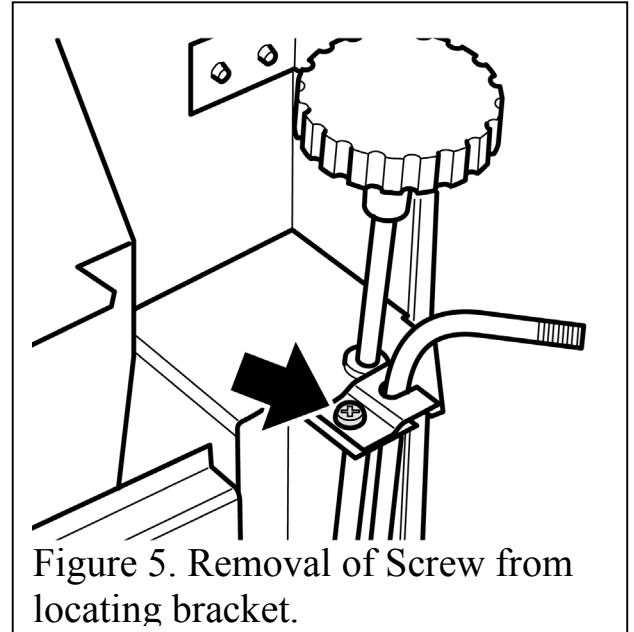

Figure 5. Removal of Screw from locating bracket.
For models fitted with a locating bracket (See figure 5)
1. Remove the self-tapping screw from the ignition bar locating bracket (See figure 5).
*For models **NOT** fitted with a locating bracket (See figure 5)*